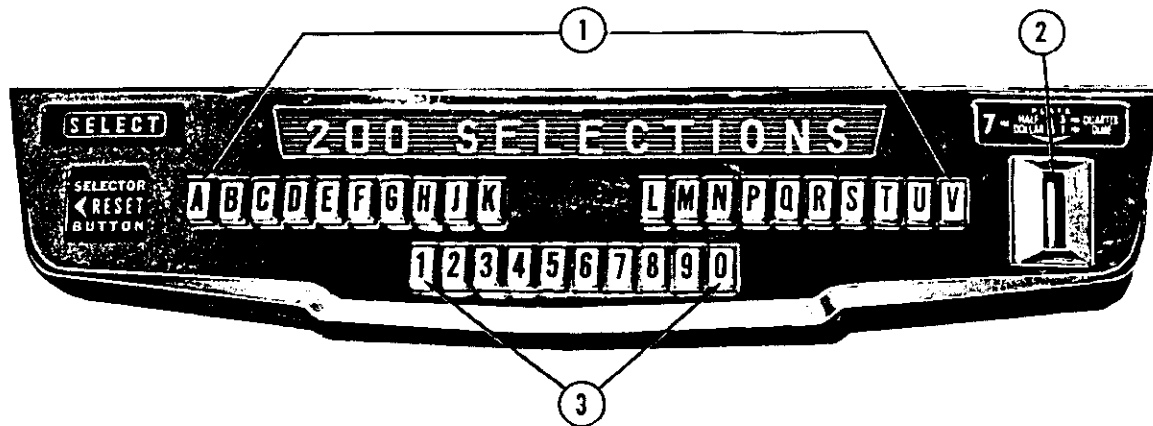
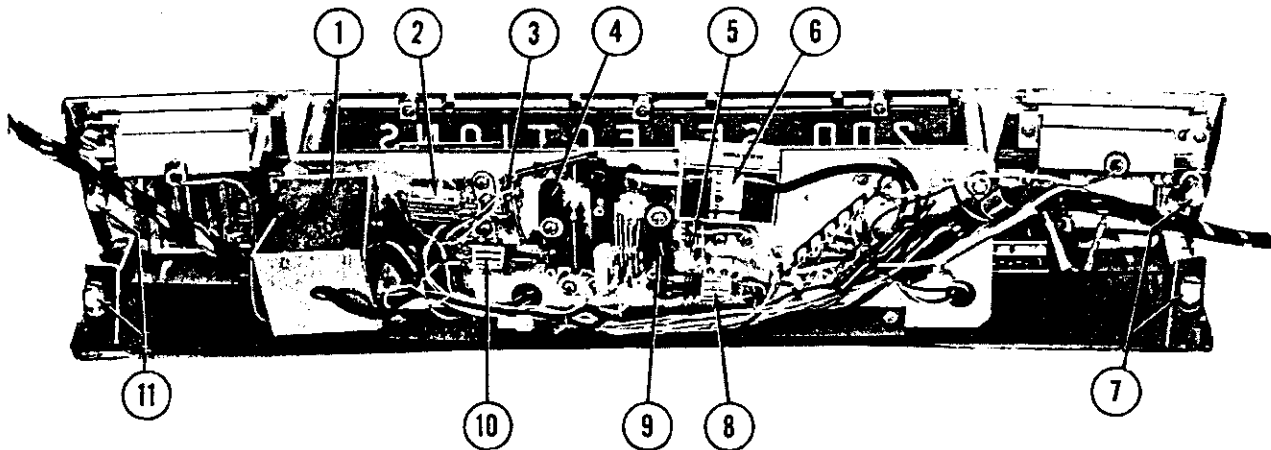

Fig. 25. SELECTOR SWITCH ASSEMBLY
Fig. 26. SELECTOR SWITCH ASSEMBLY
c. The selector button switch assembly (Figs. 25 and 26) is made up of two letter switch banks of ten switches each and one number switch bank of ten switches. The two letter switch banks are mechanically linked to provide locking action for both switch banks while selection is being completed. The latch solenoid (Fig. 26) functions to provide latching action for
any letter or number switch when it is pressed all the way in. Unless the "selector button release switch", located in the left hand cheek casting, is used, the letter or number selector switch will remain latched until the other number or letter switch is pressed and the selection completed. The "selector button release switch" permits the release of either a letter or a number switch any time before selection has been completed. The wiring of both the letter and number switches is a continuous series circuit, therefore, all letter or number switches beyond the one being used, will be isolated from the source of power and only the switch being used may receive the selection pulse. Both the number and the letter latch linkage (Fig. 26) are accompanied by the conventional latch switches. The latch switches are mechanically closed by their respective button linkages at the time the buttons are fully depressed for latching. As the latch levers of
Included in the selector switch assembly is the electric counter (Fig. 26) and a free-play switch for convenience in servicing.